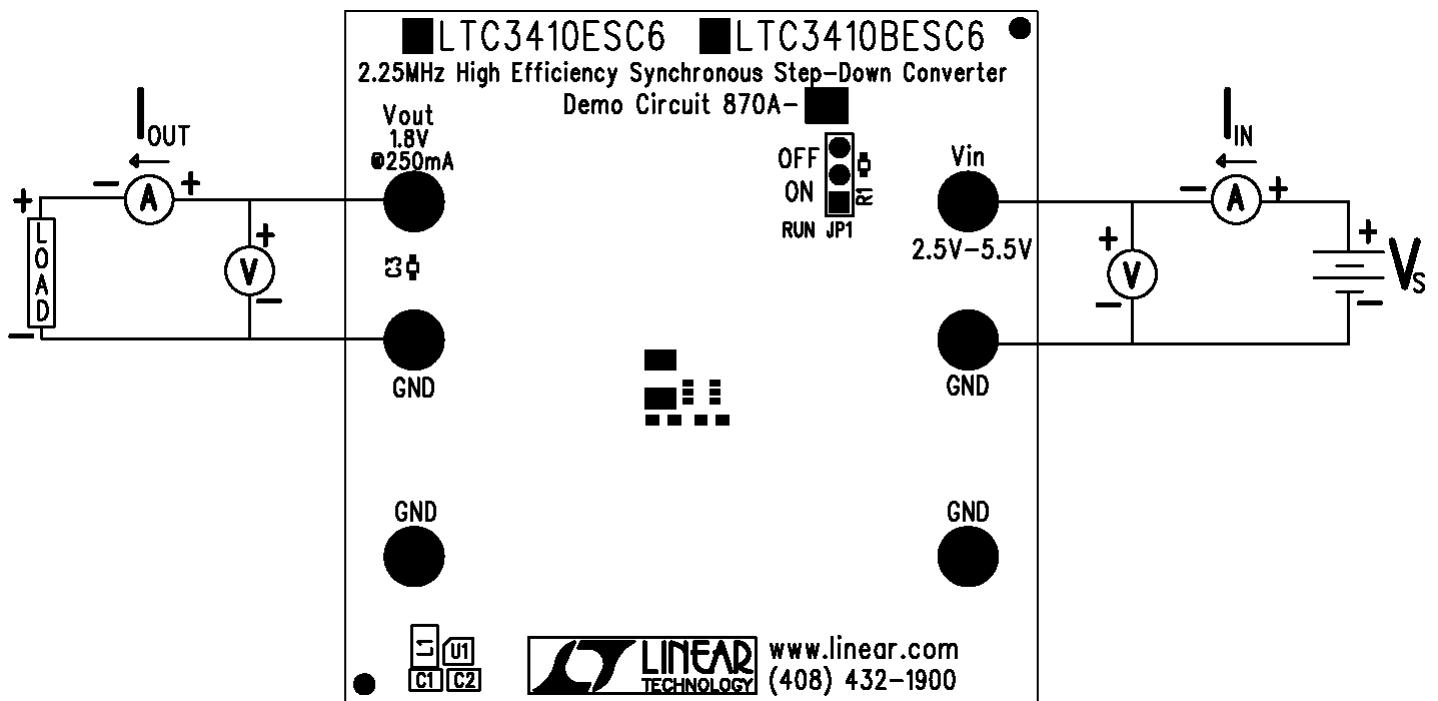

Figure 1. Proper Measurement Equipment Setup
The DC870A-B is easy to set up to evaluate the performance of the LTC3410B. For proper measurement equipment configuration, set up the circuit according to the diagram in **Figure 1**. Before proceeding to test, insert jumper JP1 shunt into the off position, connecting the RUN pin to ground (GND), which shuts down the circuit.
1. Connect the input power supply and the load to the board. Do not hot-plug Vin or increase Vin over the rated maximum supply voltage of 5.5V, or the part may be damaged. Refer to figure 1 for the proper measurement equipment setup.